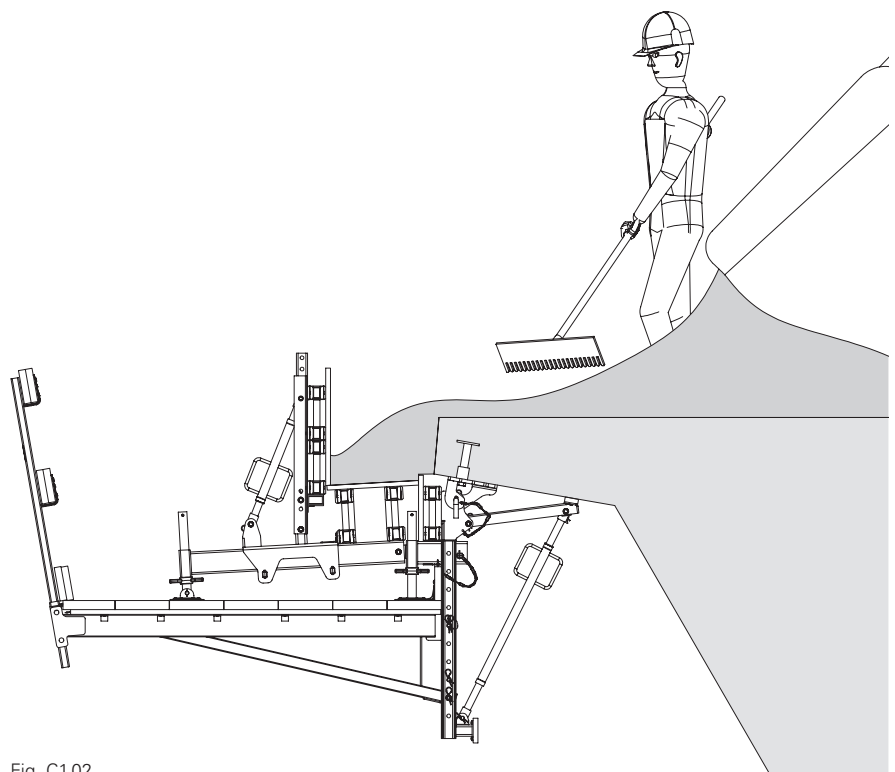

Fig. C1.02
3. Compact the concrete. (Fig. C1.02)